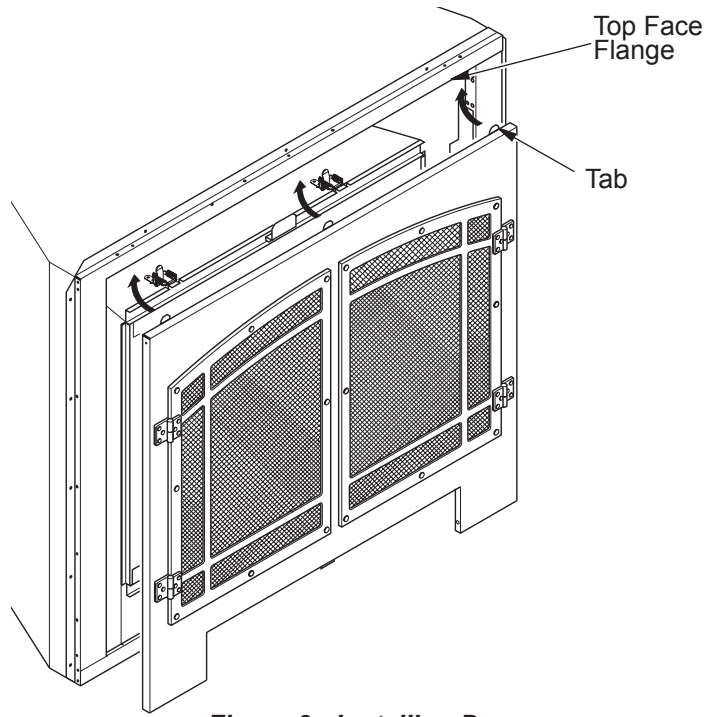

Figure 3 - Installing Door
3. **Two (2) people may be needed for lifting in this step.** To install decorative door assembly, lift and tilt bottom slightly outward and insert 3 tabs into rectangular slots located under top face flange as shown in Figure 3.